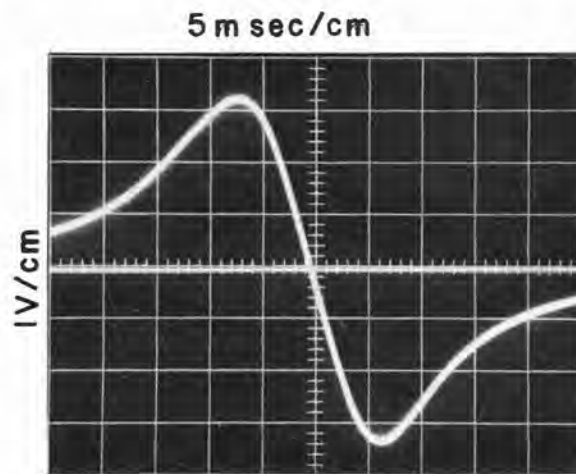

Figure 4-26. FM Discriminator Alignment, Typical Response
9. Adjust A4A9L1 and A4A9T1 for an Oscilloscope waveform which has maximum amplitude and is symmetrical and linear about the marker. See Figure 4-26 for a typical waveform.